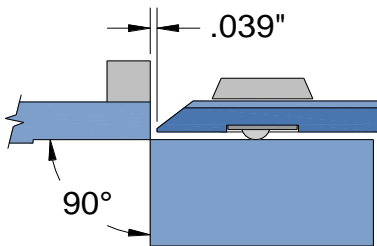

figure 20
1. Raise the bending leaf up to a 90° position as shown in (fig. 20).